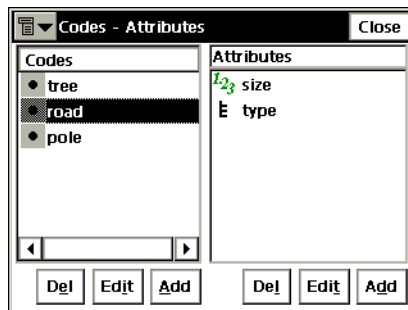

Figure 4-19. Codes - Attributes
- To delete a code or attribute, highlight it in the list and tap the corresponding **Del** button (Figure 4-19 on page 4-16). Codes being used in points, and their corresponding attributes cannot be deleted.